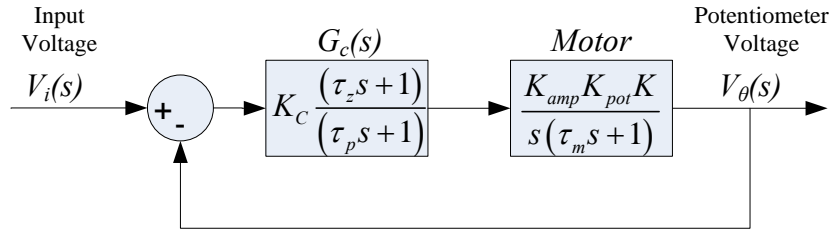

Figure 6.1. : DC Motor Lead Controller System.
- (b) Consider the motor controller of Figure 6.1 using the proportional control $G_c(s) = K_c$. Develop a Bode plot of the resulting loop transfer function
Using frequency domain techniques (See page 364 in 7th Ed., page 349 in 6th Ed. or 367 in 5th Ed., page 418 in 4th Ed., and page 390 in 3rd Ed.), design G_c to obtain this cross-over frequency and phase margin. To avoid poor response or control saturation, keep the DC gain in the range $2 \leq K_c \leq 4$. To prevent noise amplification keep your poles and zeros closer to the origin than 500 rad/s. As before, we are interested in the magnitude and phase characteristics of the open-loop response to determine the closed-loop response, using the feedback configuration illustrated in Fig. 6.1.
1. Generate a SIMULINK model of Figure 6.1; use the control block diagram and the gains in step (e) of the prelab. Use a **To Workspace** block to store the step response as “V”, and set the “Save Format” to **Array**. In the simulation parameters, use **ODE45** for the best results; to smooth out the curve, set **Max step size** to 0.01 or even 0.001. Also, change the stop time to shortly after the transient response finishes (a couple seconds).
7. Follow the procedures from Lab 5 (remember load `rtwin486` and save it as your own copy in folder `C:\NETID`, then connect ports to corresponding signals) to create a SLDRT model that implements Figure 6.1. You may use a **Transfer Fcn** block for the controller. Set the gains to match the low-DC gain control from part (e) of the prelab. Adjust the configuration to use **ODE1** with a *Timestep* of 0.002. Set the *Stop time* to a large value (999 s).